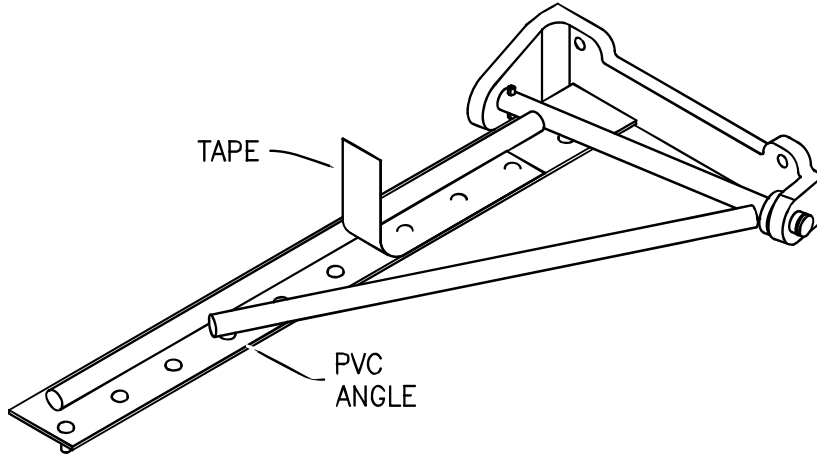

FIG. 4
- b. Tape backside of flat bar to hold track bolts in place (Fig. 4).